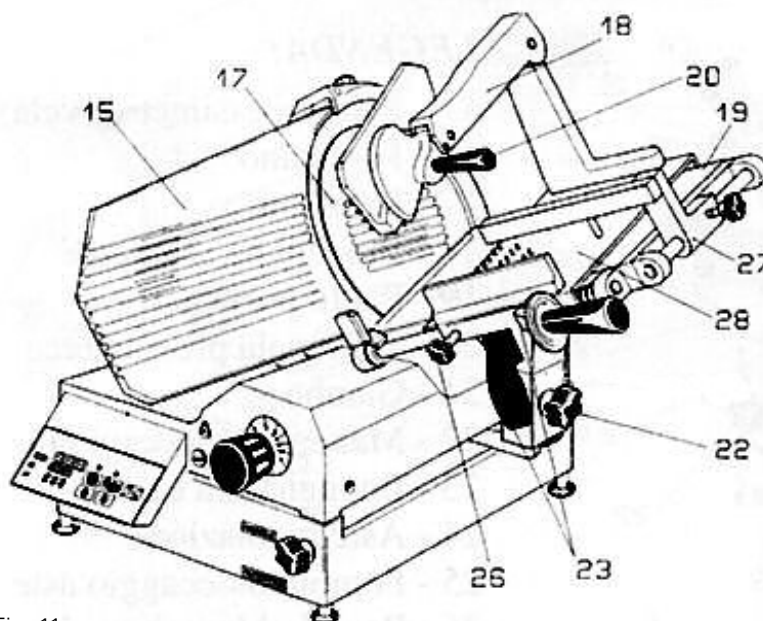

Fig. 11
N.B.: The product to cut is only loaded onto the tray when the graduated dial is set to "0" and with the motor off (Fig. 11).
1. Move the sliding tray (28) back as far away as possible from the thickness gauge tray (15).
2. At this point, using the sliding lock knob (26), it is possible to secure the position of the tray.
3. Place the product on the sliding tray (28) after first raising the product pusher arm (18).
4. Using the grip (20), lower the product pusher arm (18) which will secure the product to the tray (28) with the steel teeth fixed on the bracket. Release the sliding lock knob (26)
5. The weight of the product will push the sliding tray (28) towards the thickness gauge tray (15).